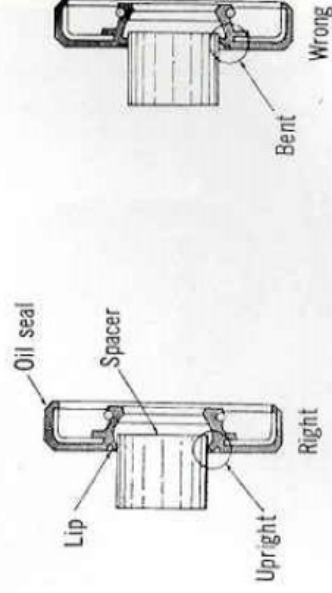

Fig. 8-3-24
17. When installing the **engine sprocket spacer** on the driveshaft, be careful not to bend the oil seal lips. (Fig. 8-3-24) In addition, install the spacer with its less chambered end facing inward